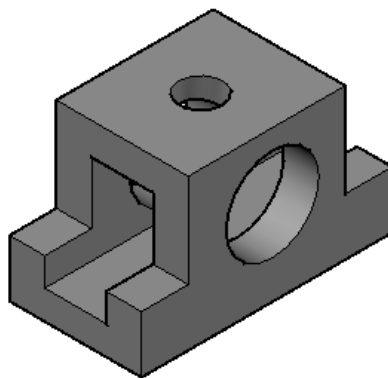

Figure 3-55 Final solid model for Example 1
26. Subtract this cylinder from the model and change the visual style to **Shades of Gray**. The final model should look similar to the one shown in Figure 3-55.